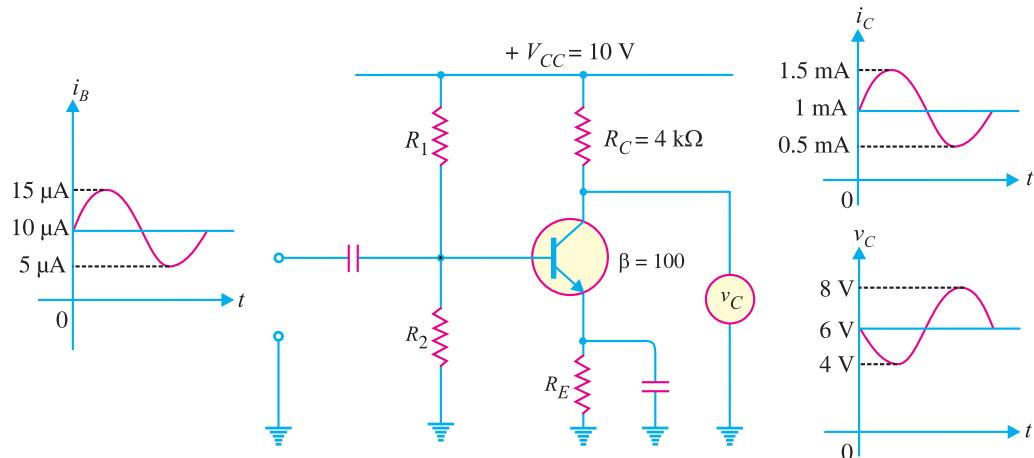

Fig. 10.7
**Solution.** In every type of amplifier, the input and output currents are in phase. However, common emitter amplifier has the unique property that input and output voltages are  $180^\circ$  out of phase, even though the input and output currents are in phase. This point is illustrated in Fig. 10.7. Here it is assumed that Q-point value of  $I_B = 10 \mu\text{A}$ , ac signal peak value is  $5 \mu\text{A}$  and  $\beta = 100$ . This means that input current varies by  $5 \mu\text{A}$  both above and below a  $10 \mu\text{A}$  dc level. At any instant, the output current will be 100 times the input current at that instant. Thus when the input current is  $10 \mu\text{A}$ , output current is  $i_C = 100 \times 10 \mu\text{A} = 1 \text{ mA}$ . However, when the input current is  $15 \mu\text{A}$ , then output current is  $i_C = 100 \times 15 \mu\text{A} = 1.5 \text{ mA}$  and so on. Note that input and output currents are in phase.
Note that as  $i_C$  increases from  $1 \text{ mA}$  to  $1.5 \text{ mA}$ ,  $v_C$  decreases from  $6 \text{ V}$  to  $4 \text{ V}$ . Clearly, output voltage is  $180^\circ$  out of phase from the input voltage as shown in Fig. 10.7.